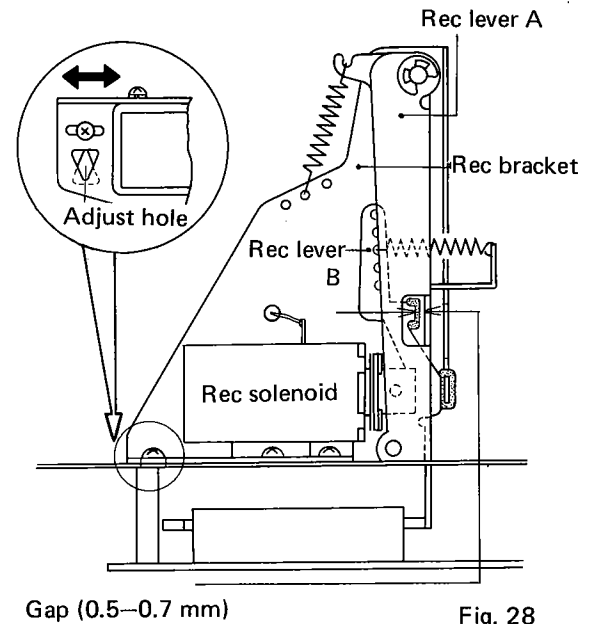

Fig. 28
## 10.6 RECORD LEVER A AND B OPERATION (Fig. 28)
1. Set in recording mode, insert a screwdriver into the adjustment hole (Fig. 28) and adjust the record bracket so that the gap indicated by the arrows becomes 0.5 – 0.7mm.